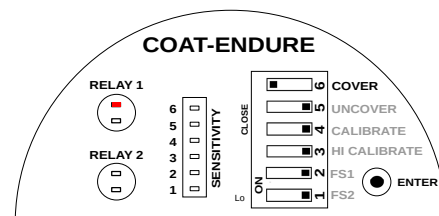

Figure 18: Cover Switch Position
- Set the COVER switch to CLOSE (Opposite of OPEN in a DIP switch) position as shown in Figure 18.